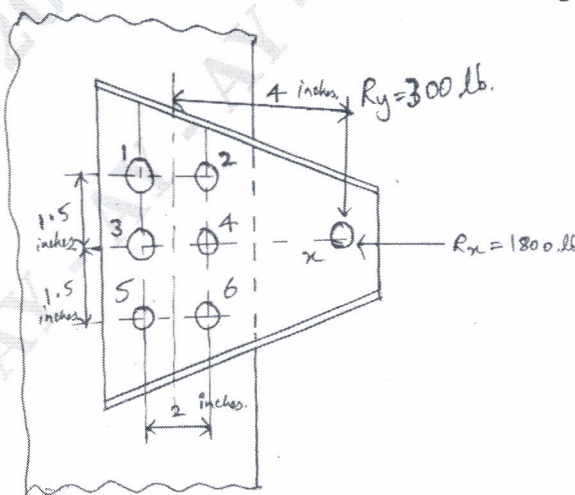

Fig. Q6 (b)
b. Find the Resultant force on each rivet of the connection shown in Fig.Q6 (b).